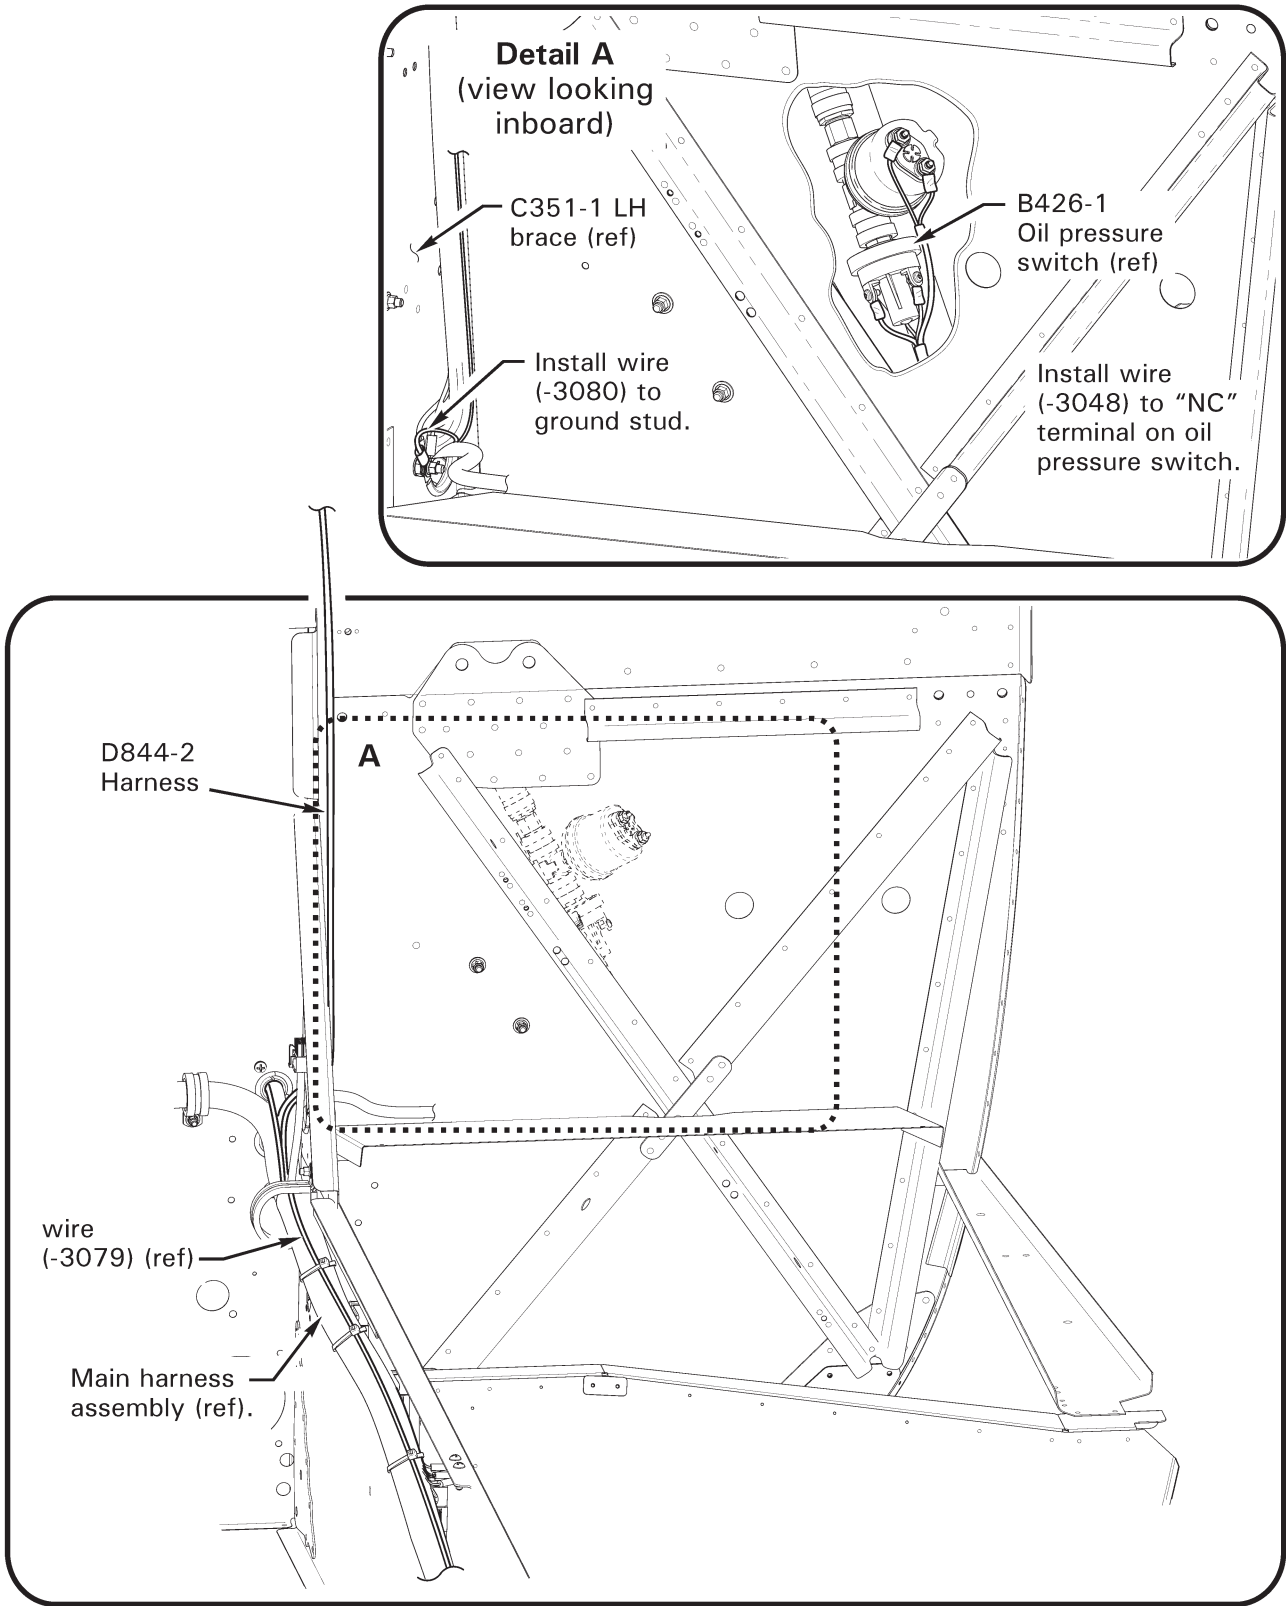

FIGURE 4 Terminating locations for D844-2 harness wiring
11. Refer to Figure 4. Using a rigid metal rod carefully route upward behind bulkhead foam insulation on LH (seat back) side, along existing wire bundle, then forward along left side of helicopter centerline. Secure wire harness wires to rod and carefully retract rod downwards, routing above 220-242400-09 clips (see R44 Illustrated Parts Catalog [IPC] Figure 63-11).
14. Refer to Figure 4. Route D844-2 harness wire (-3048) to engine oil pressure switch. Follow main harness aft thru firewall, moving B270-5 sealant as required. Follow wire bundle to oil pressure switch. Trim wire to length and strip end. Install B260-3 ring terminal on wire. Inspect crimp per MM § 23-84. Verify security of terminal. Install ring terminal to “NC” terminal on oil pressure switch. Ensure seal around wire bundle and firewall is restored, adding B270-5 sealant as required.
- 16. Refer to Figure 4. Route D844-2 harness wire (-3079) to main bus as shown, along airframe harness to circuit breaker panel. Carefully remove ty-raps from airframe harness and secure wire (-3079) to airframe harness using appropriately sized ty-rap. Cinch ty-rap until snug without over tightening, and trim tip flush with head. Strip wire and install on D844-4 fuse assembly. Inspect crimp per MM § 23-84. Verify security.